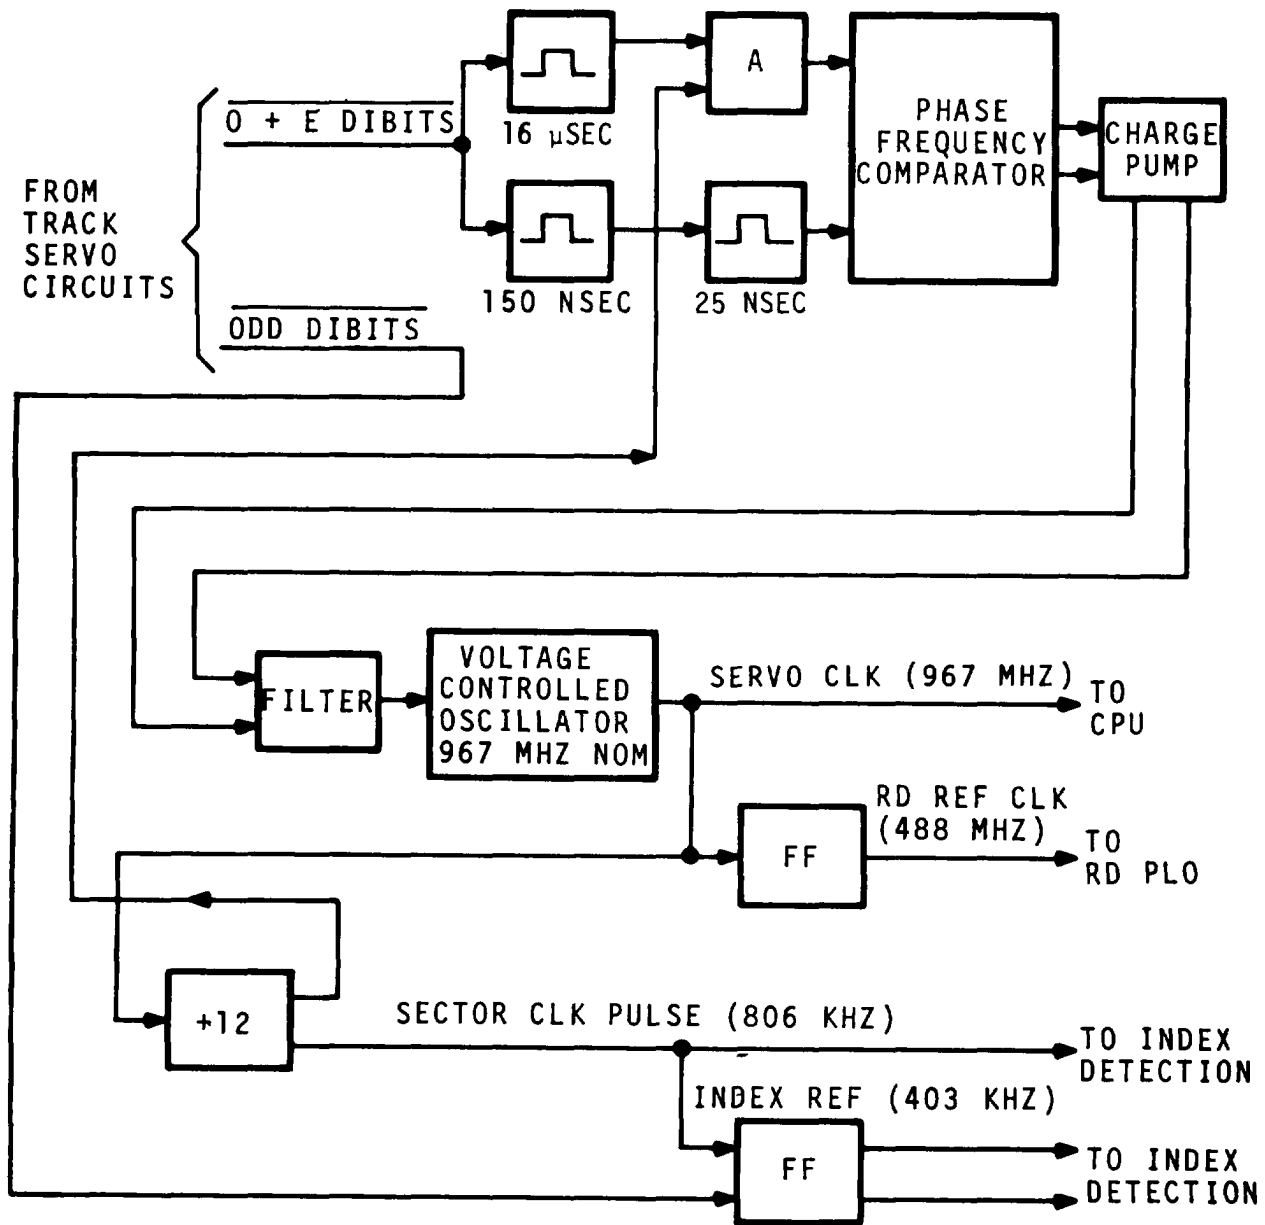

Figure 2-6. Servo Clock Multiplier
a. Servo Clock Multiplier. Figure 2-6 is a block diagram of the servo clock multiplier circuit. This circuit generates clock pulses used by the sector